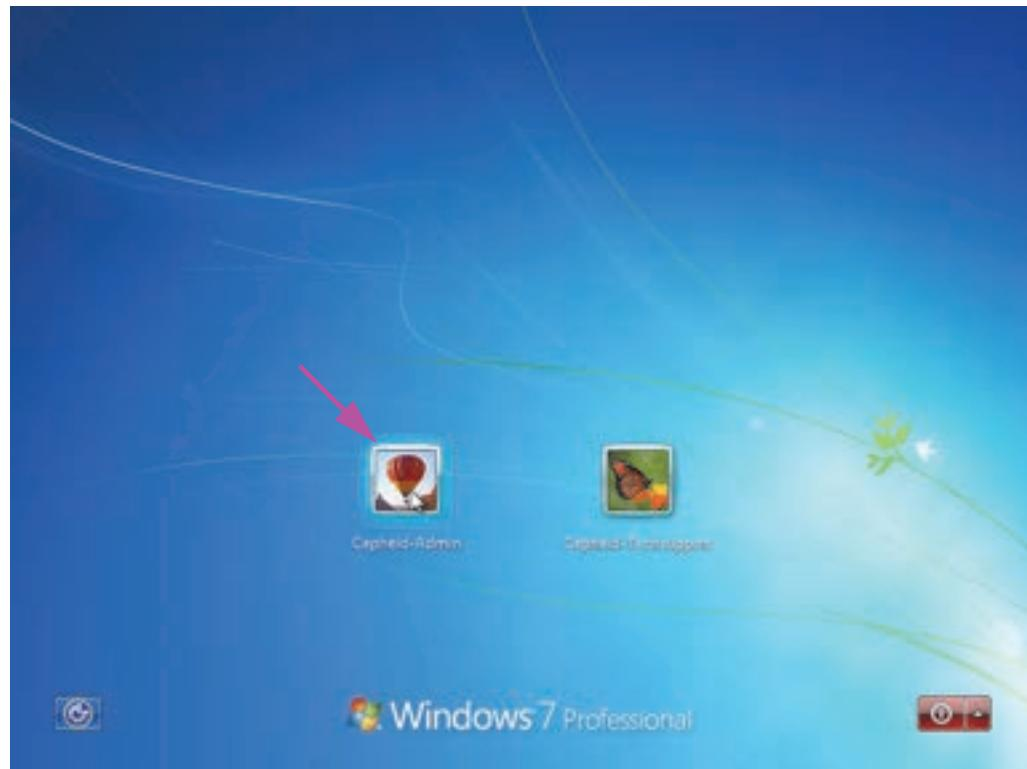

Figure 2-13. Windows 7 Account Screen
- On Windows 7, the Windows Account screen appears. See Figure 2-13.
3. On the Windows Account screen, select the Cepheid user account (see Figure 2-13 and Figure 2-16).
The GeneXpert Dx system computer is configured with two Windows accounts. The **Cepheid-Admin** account is for administrator tasks such as software updates, system configuration and normal operation; and the **Cepheid-Techsupport** account is for use only by Cepheid Technical Support See Figure 2-13 and Figure 2-16.